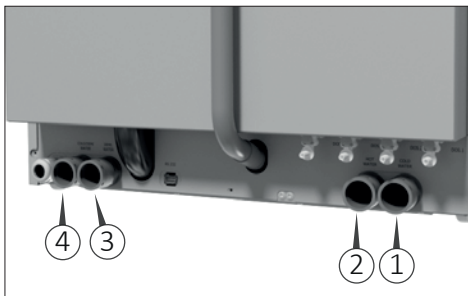

Fig. 9
- Make sure to connect the water flexible hoses in the positions shown in figure 9.
- Connect the water flexible hose to connections shown in figure 9.
Water connections (Fig. 9)
- 1) Connect the machine to water connections (Fig. 9).